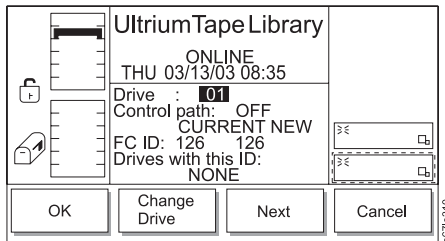

Figure 4-107. FC Submenu
- The FC submenu displays (see Figure 4-107). The submenu gives the settings for the selected Fibre Channel drive. The value of the current drive displays in the Drive: field. The value of its FC ID displays in the FC ID: CURRENT field.